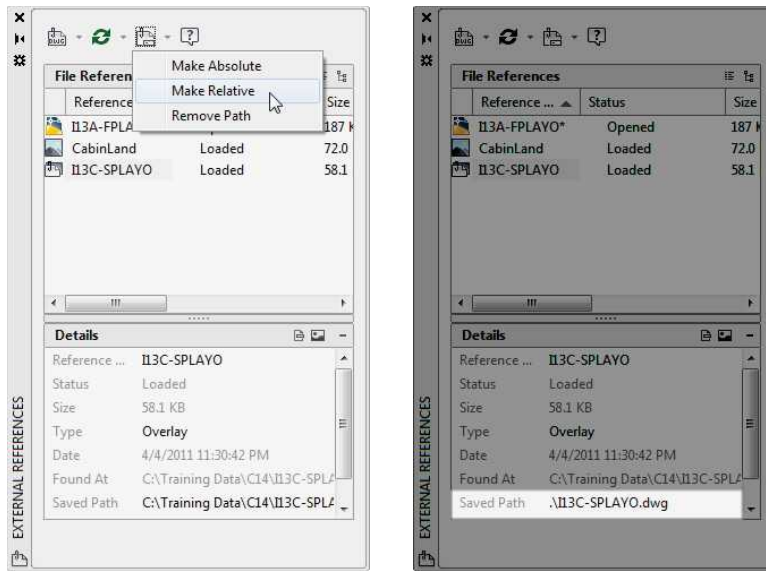

FIGURE 13.36: Changing the Xref path type (left) and the resulting relative path (right)
1. Select the I13C-SPLAY0.dwg reference from the External References palette shown on the left in Figure 13.36.
2. Choose Make Relative by clicking the Change Path button along the top edge of the External References palette (highlighted on the right in Figure 13.36).